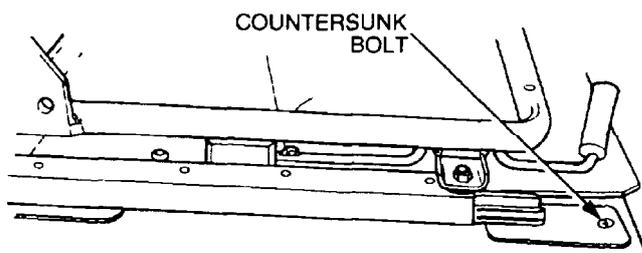

Figure 321 Removing the Front Seats
- kk. Remove the bolts securing the front seat runners to the seat base (Figure 321) and remove the seats.